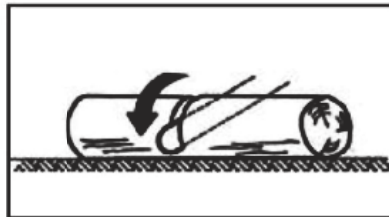

Fig.4A
1. Log supported along entire length: Cut from top (over buck), being careful to avoid cutting into the ground (Fig.4A).